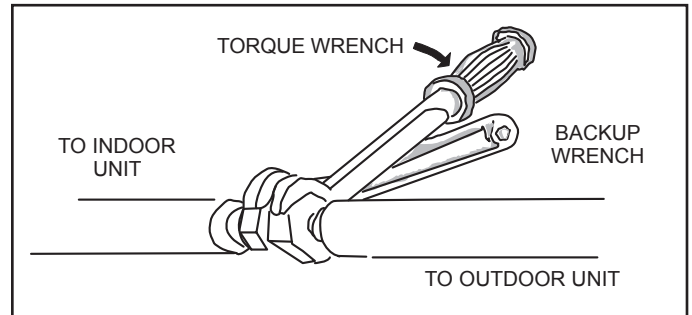

Figure 9. Tighten Flare Nut
11. Securely tighten the mounting bolts on both sides. See Figure 9.
- Once snug, continue another half-turn on each nut which should create a leak-free joint. A torque wrench may be used to tighten flare nuts using Table 2 recommendations. See Figure 9.